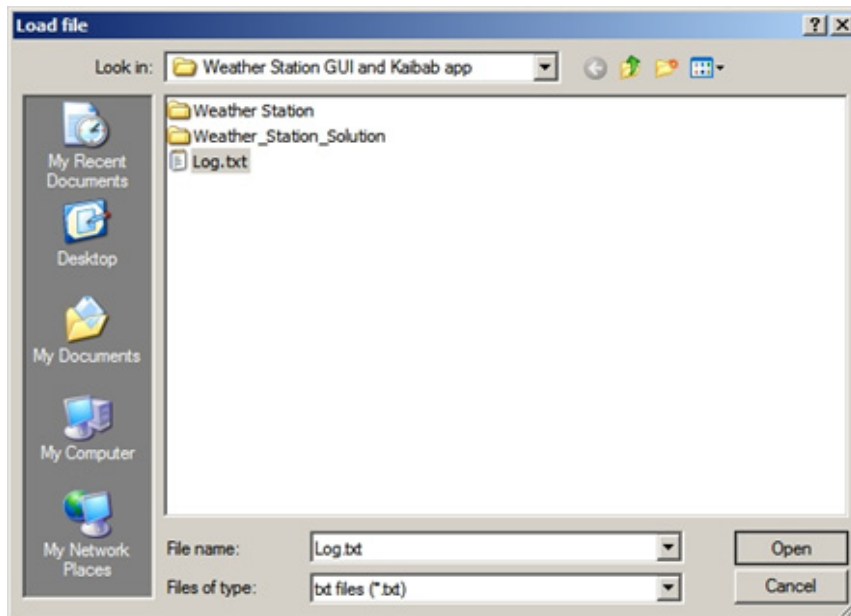

Figure 9-12. Load File Window
2. Click on File -> Load. The Load file window appears as shown in Figure 9-12.